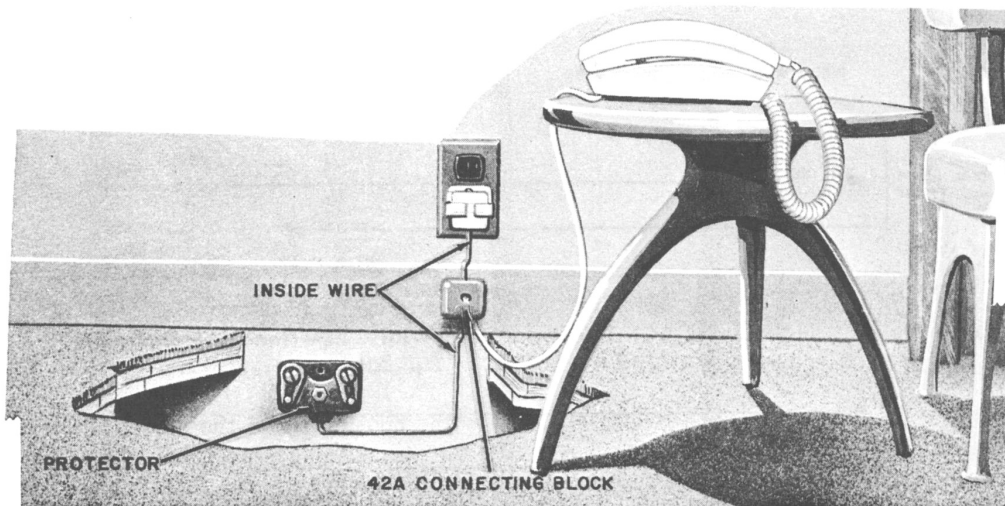

Fig. 5—Typical Installation Of AD1 Telephone Base With 220A Hand Telephone Set
(1) When installing an AD1 telephone base, terminate the line and transformer wiring at a common bridging point, such as a 42A connecting block (Fig. 5). Connect the spade-tipped leads of a D5AL (Fig. 10) or D5AN mounting cord at the bridging point, as shown in Section 502-321-400.